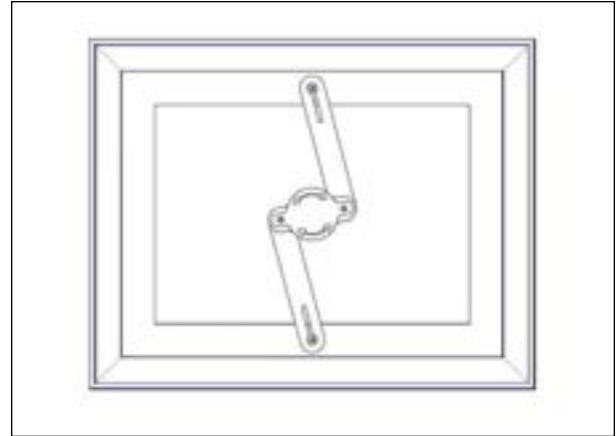

FIGURE 85: INSIDE HANDLE
1. Turn the red handle by a quarter turn in either direction to retract the arms, see Figure 85.